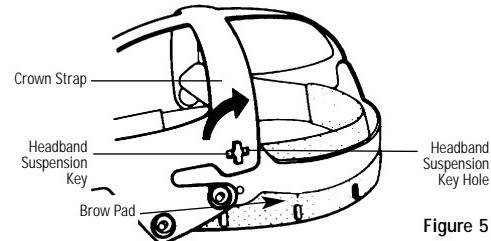

Figure 5
2. Rotate crown strap 90° until key dislodges from keyhole (see Figure 5).